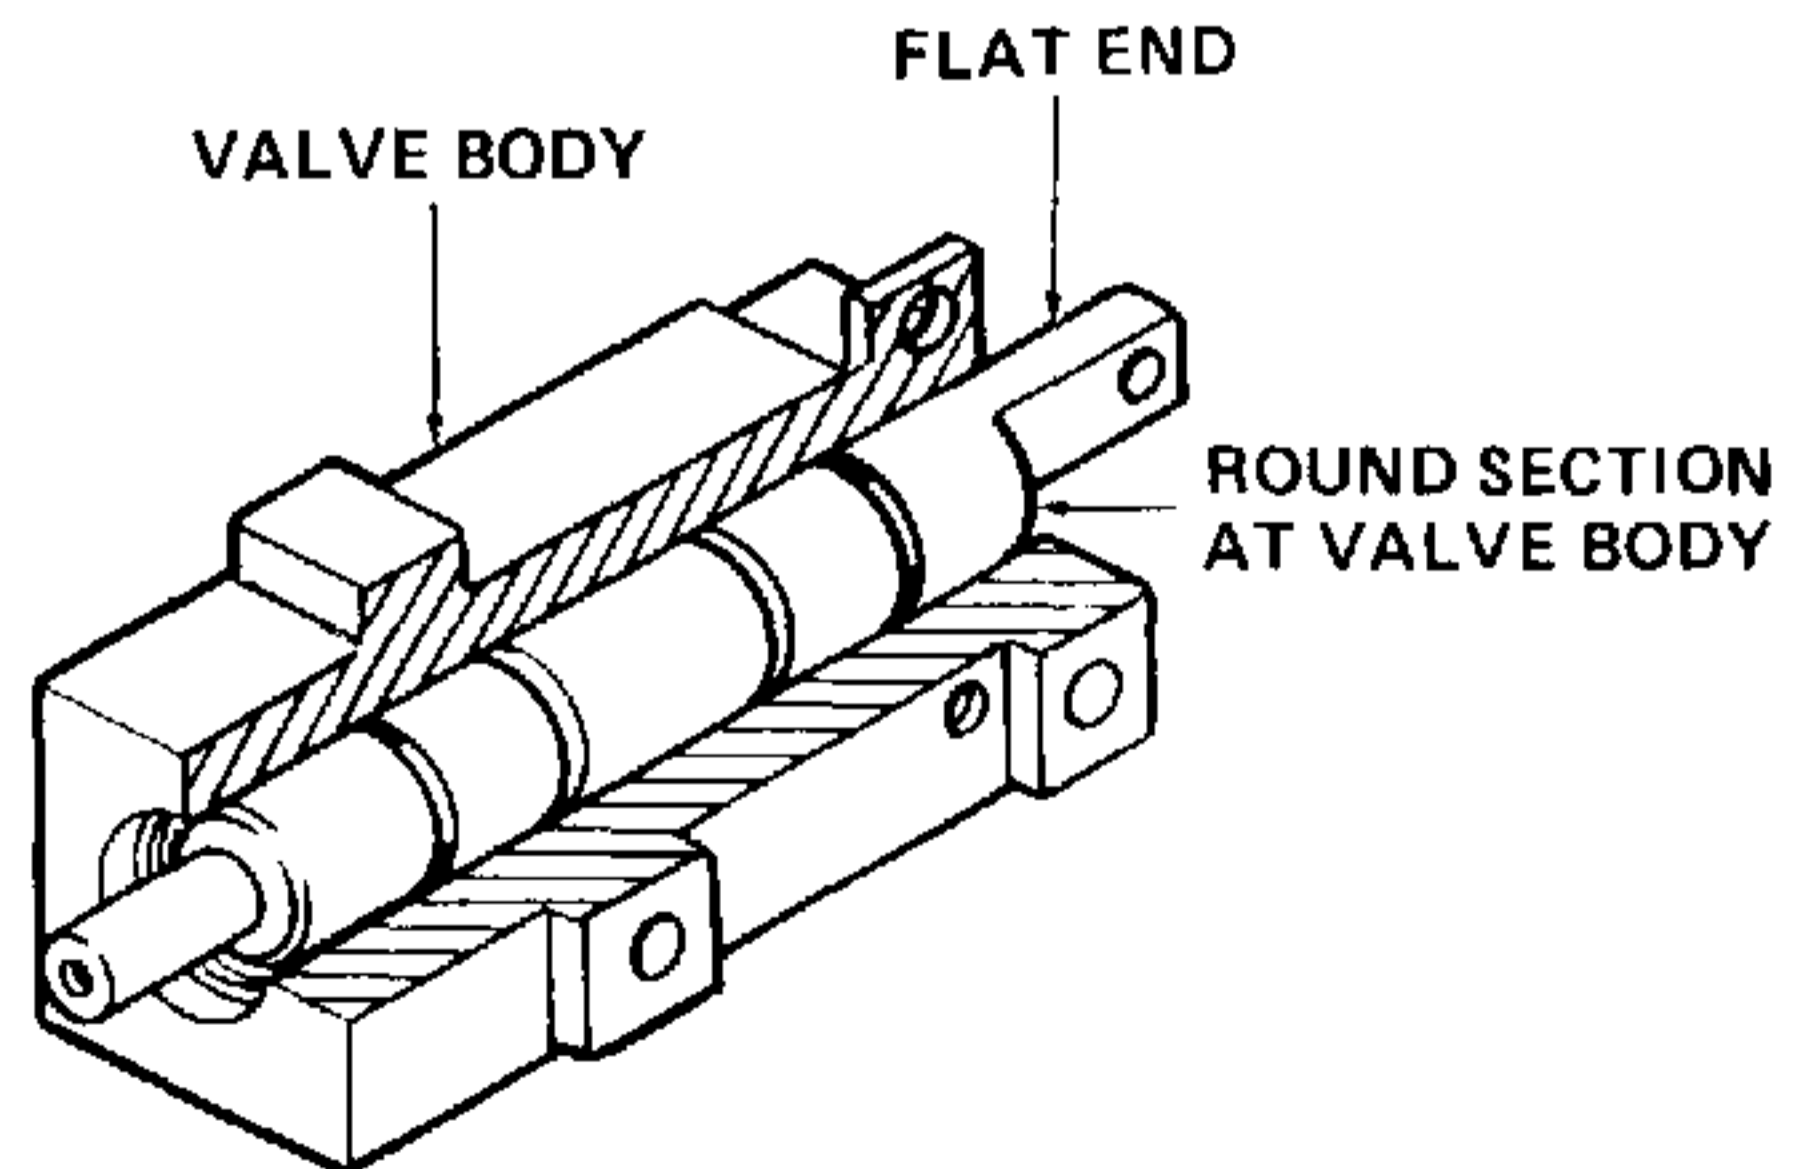

Figure 5-55A. Valve Shaft Correctly Positioned in Valve Body.
- e. Push valve shaft back into valve body until round section near flat end of shaft is just inside valve body. Refer to Figure 5-55A.